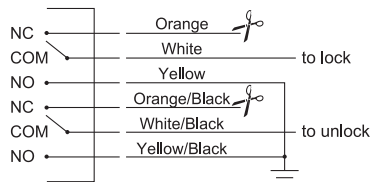

Fig.2 Negative trigger
1. For cars without central control door locks, it is advised to install a central control lock to cooperate with the car alarm system. (Fig.2 negative trigger)